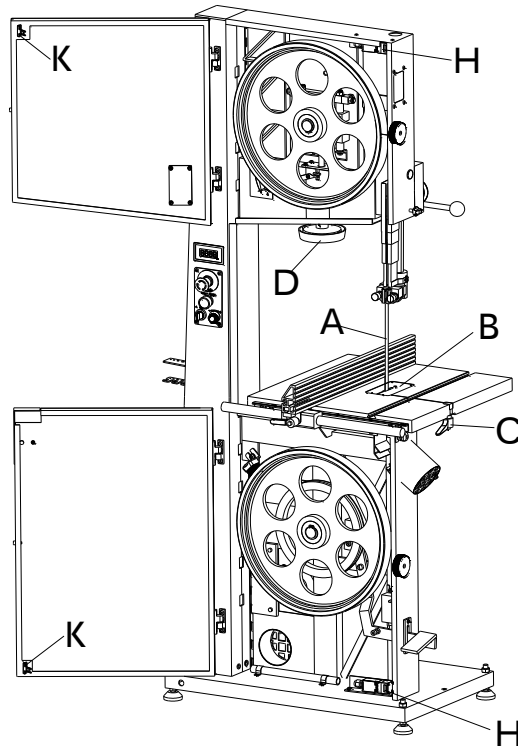

Fig. 10
First, remove the bedplate protection plate(B) and Loosen handle(C), and then saw blade (A) Bedplate crack on the bedplate center and across the flywheel, up and down on the up and down Saw card center, then turn the saw blade Tight grip (D), tensioning saw blade, again Installed protection plate (B), at last Lock knob (C). As shown in figure 10.